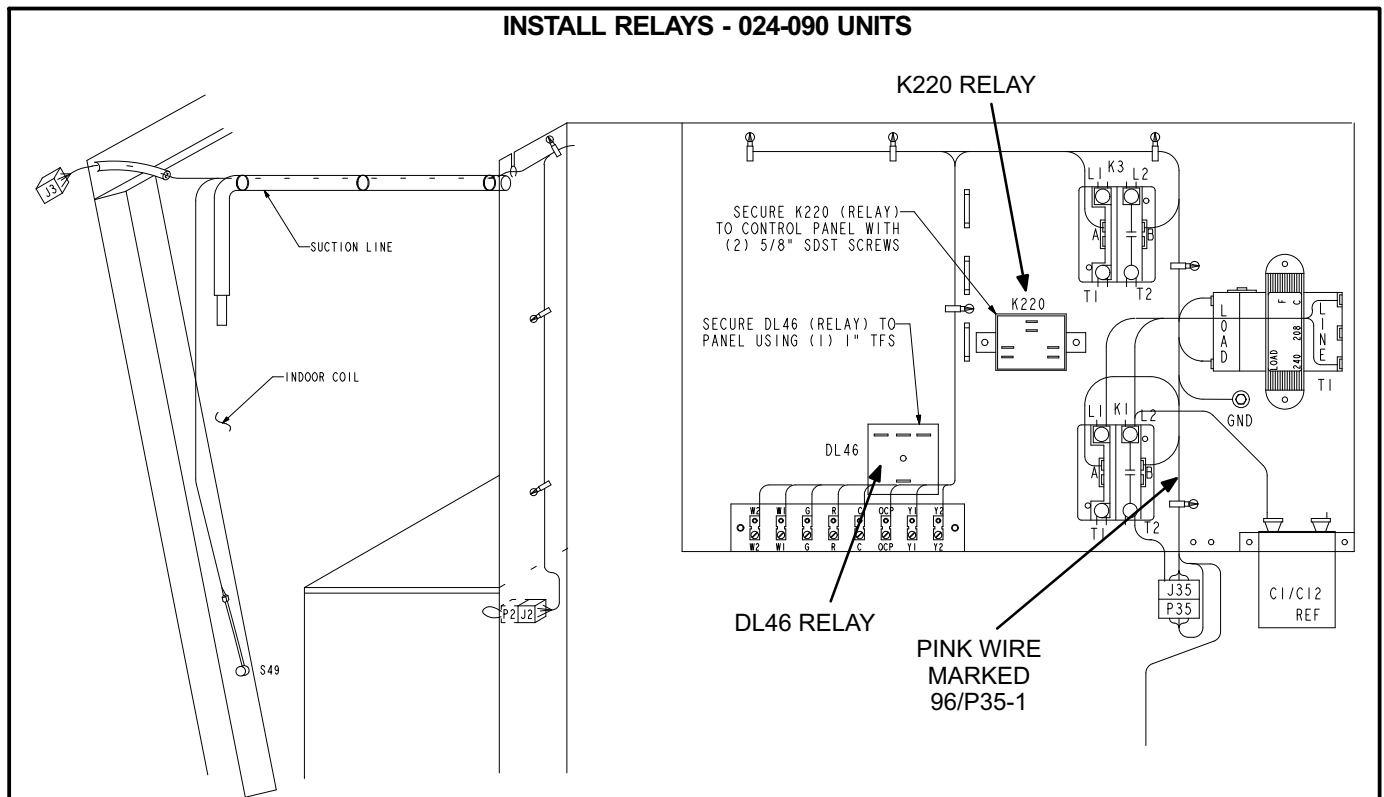
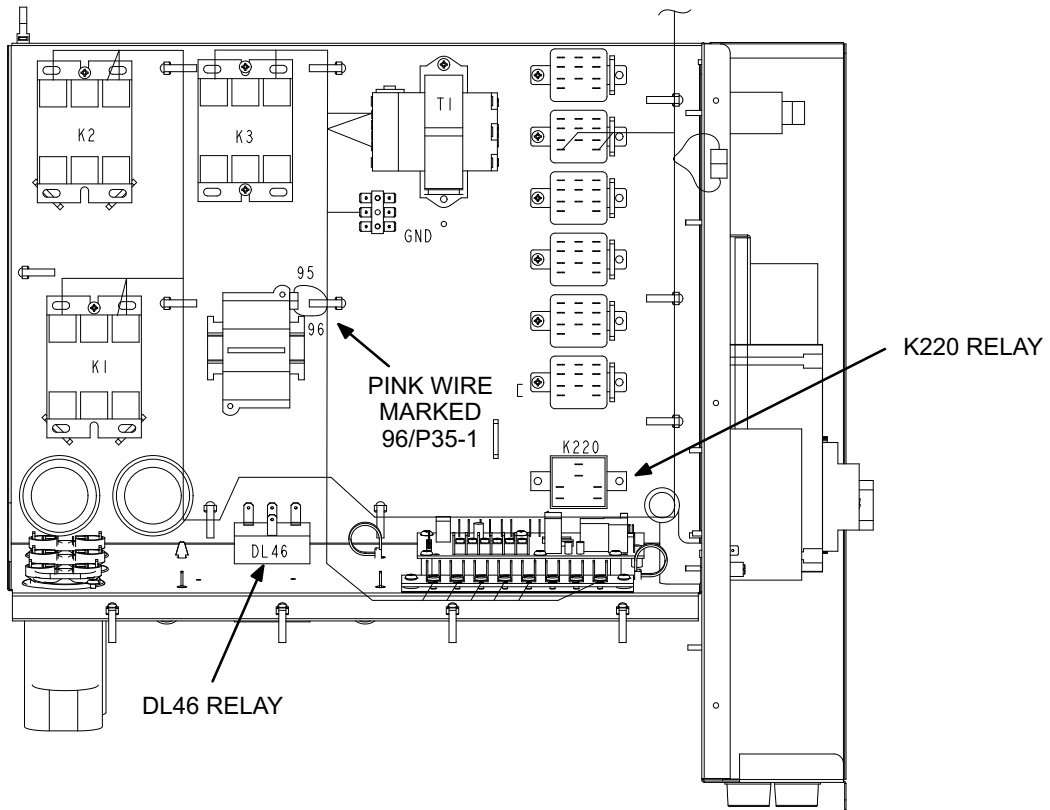

FIGURE 5
FIGURE 6
- 1- Install two relays on control panel with screws provided in kit. See figure 5 for 024-090 units, figure 6 for 092-150 units and figure 7 for 156-300 units.